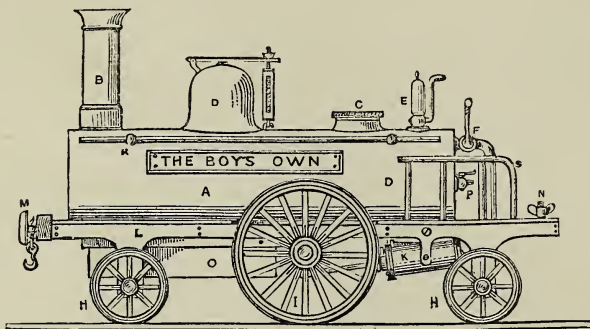

Fig. 2.
At the commencement of this chapter is a drawing of the model we are about to build in its finished condition, and Fig. 2 is a side view of the same, of which A is the boiler, B the chimney, C a screw head to fill boiler with water, D the steam chest with safety valve on top, E the whistle, F the steam tap to start the engine with, H H are the leading and trailing wheels, and I the driving ditto, K the cylinders, L the
Fig. 9 shows you an underneath view of the framework and the position to place the cylinders in, which should be supported by a couple of lugs (A A) screwed to the bed-plate B, which must have a piece cut out on either side to allow the driving-wheels (C) to work in, as at D, because, being larger than the others, they project beyond the top of the bed-plate, as shown in Fig. 2. You can now screw on by means of the hook F the buffer-beam, previously cut from a piece of mahogany, five inches long, half an inch thick, and one inch deep, nicely squared and sand-papered.